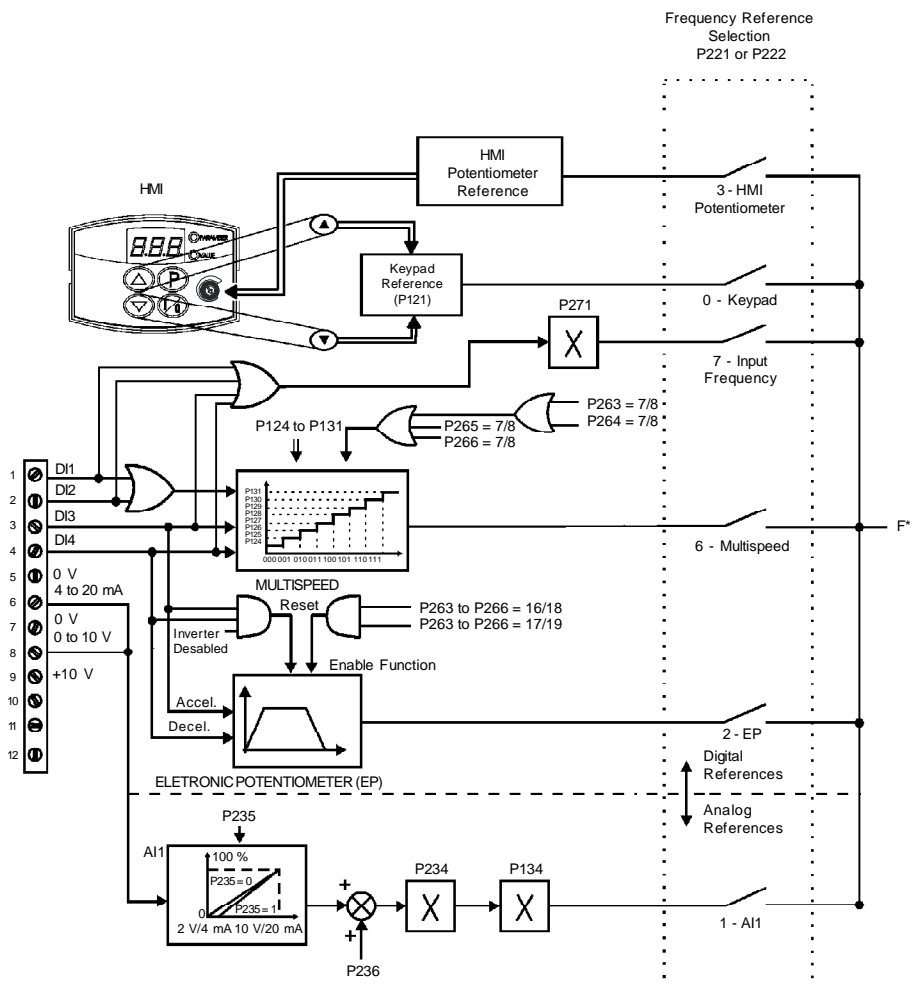

Figure 6.1 - Block diagram of the frequency reference
Figure 6.1 shows through a diagram block the frequency reference definition to be used by the inverter.
- In V/F control mode ($P202 = 0$ or 1), $F_e = F^*$ (see Fig. 6.1) if $P138 = 0$ (slip compensation disabled). If $P138 \neq 0$, see figure 6.9 for the relation between F_e and F^* .